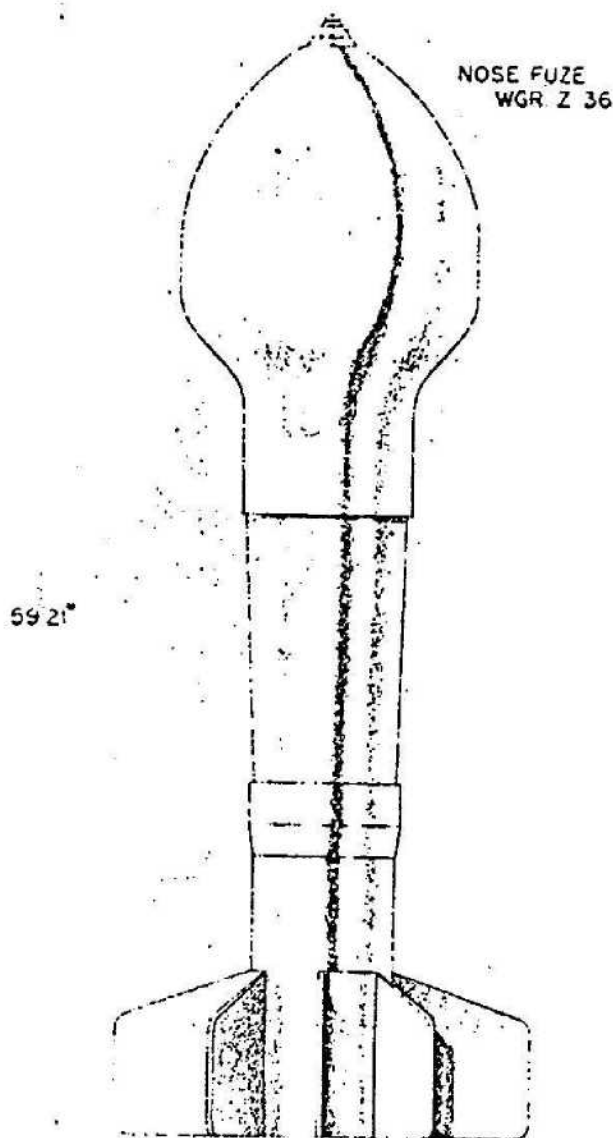

Figure 549—H. E. Mortar Projectile, 380-mm, 38-cm
**GERMAN NOMENCLATURE:** 38-cm Wgr. 40 (Werfergranate 40). (See fig. 549.)